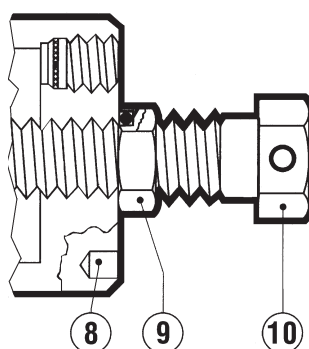

Fig. 21 - 20./...Pilot adjustment screw
5.3 COMMISSIONING THE REGULATOR (FIG. 21)